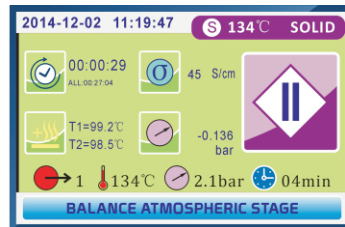

Fig.5.3-29
5.3.2.12.BALANCE ATMOSPHERIC STAGE(Fig.5.3-29)